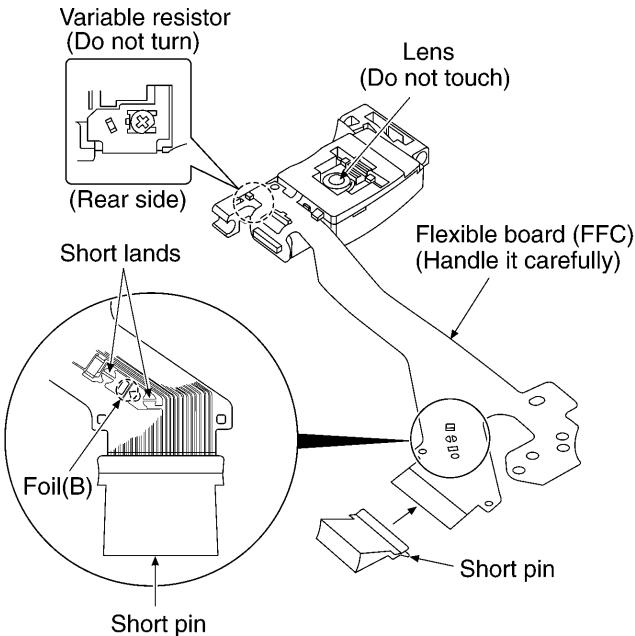

Fig. 3-1.
(Refer to Fig. 3-1.)
4. Do not turn the variable resistor (laser power adjustment). It has already been adjusted. (Refer to Fig. 3-1.)
2. Cut the foil (B). (Refer to Fig. 3-1.) (Take care not to make contact with cutting point each other.)
3. Unsolder the short lands. (Refer to Fig. 3-1.)